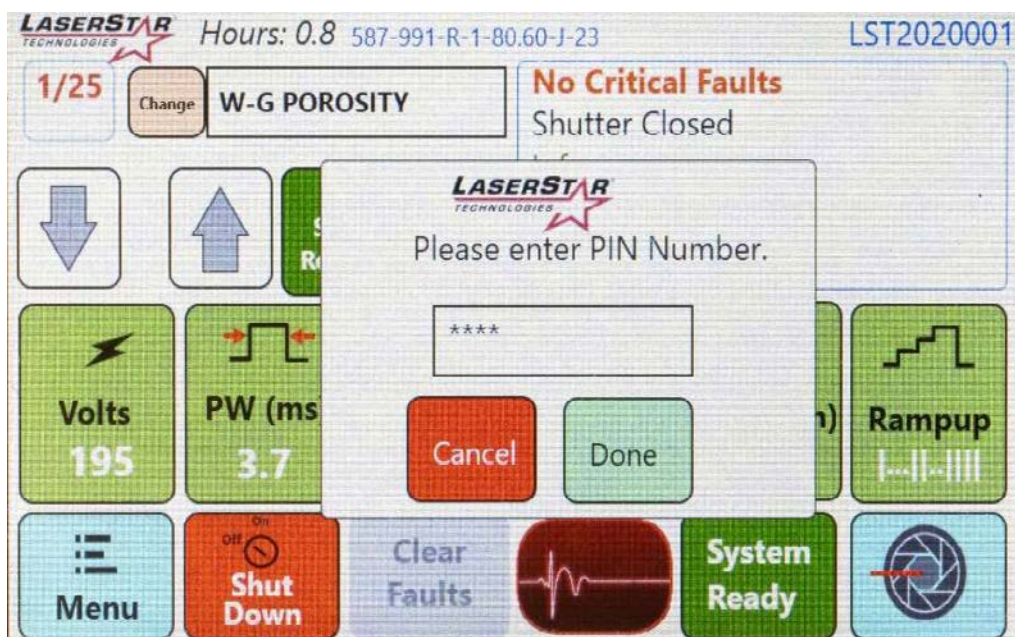

Figure 83
3. Touch the number box (****) (Figure 83)
6. Now press (Done) (Figure 83)
7. Touch the number box (****) (Figure 83)